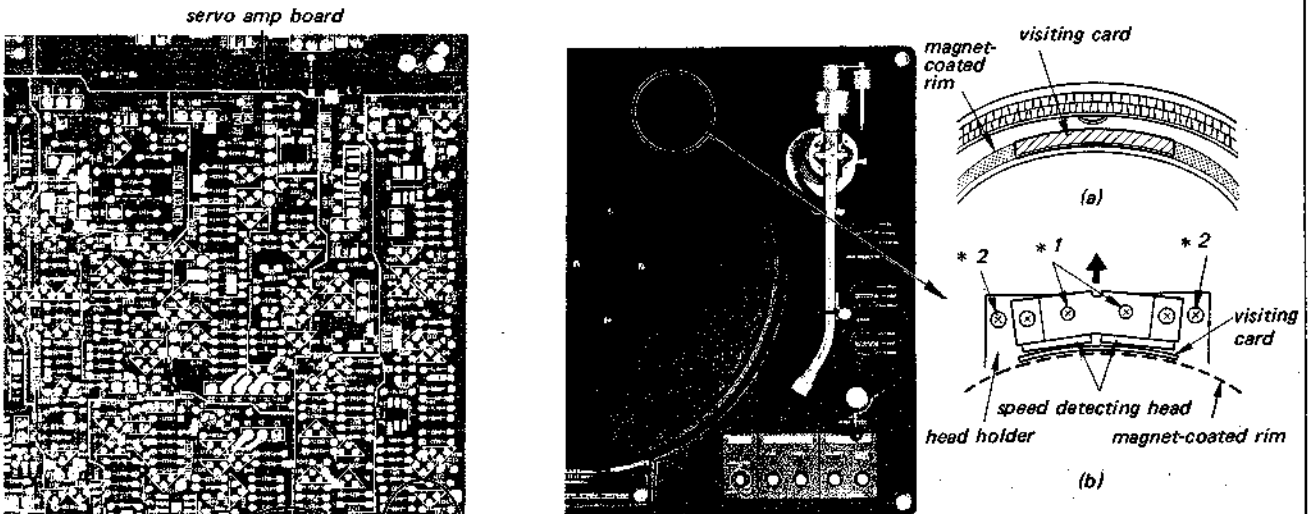

Fig. 9
3. Stick a visiting card (0.3 mm in thickness) on the magnet-coated rim as shown in Fig. 9 (a).
5. Bring the head above the visiting card as shown in Fig. 9 (b).
Adjust the position of head bracket so that the two heads touch the visiting card at the center of head slightly as shown in Fig. 9 (b).
11. Adjust the two screws (*1) when phase difference is improper, and the two screws (*2) when output voltage is improper. (Refer to Fig. 9 (b).)